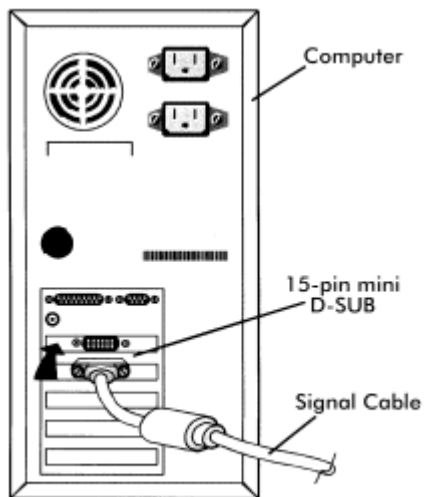
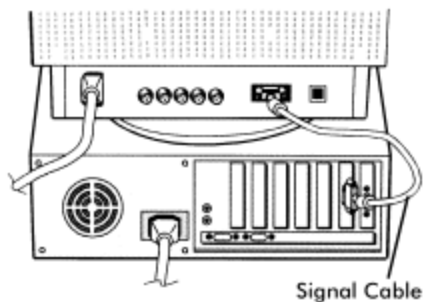

Figure A.1
Figure A.2
2. **For the PC:** Connect one end of the 15-pin mini D-SUB signal cable to the connector of the display card in your system (**Figure A.1**) and the other end to the back of the monitor (**Figure A.2**). Tighten all screws. Proceed to Step 4.